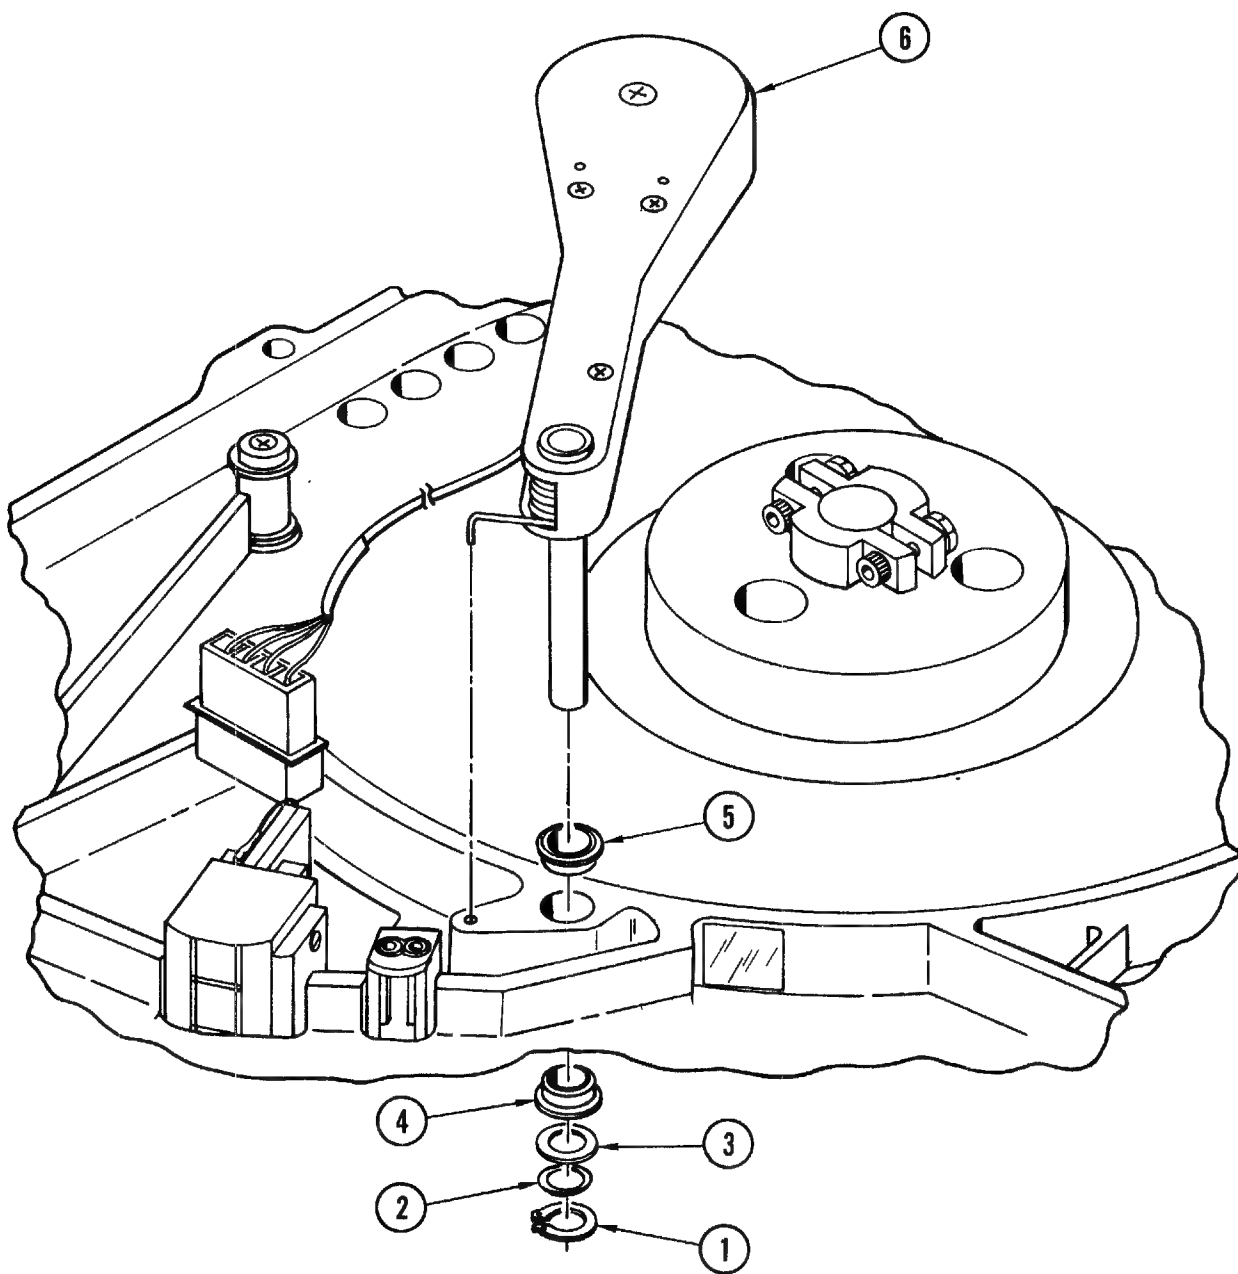

Figure 4-13. Tachometer Assembly
**4-27. Removal and Replacement (Figure 4-13).** Place the transport in service access position in accordance with paragraph 4-3 and proceed as follows:
- b. Remove grip ring (1, Figure 4-13), wavespring washer (2), and shim(s) (3) from tachometer post beneath top plate and save for reassembly.
- c. Remove tachometer assembly (6) from top plate, pulling wire harness and connector carefully through hole.
- d. If lower bearing (4) or upper bearing (5) was removed, apply Loctite 601 sparingly to outside surface of replacement bearing before installing.
- e. Install replacement tachometer assembly through upper bearing (5) and lower bearing (4), seating end of spring in adjacent small hole in top plate.
- f. Install shim(s) (3), wavespring washer (2), and grip ring (1). If necessary, install additional shims (3) to compress wavespring half of its height when grip ring is installed.